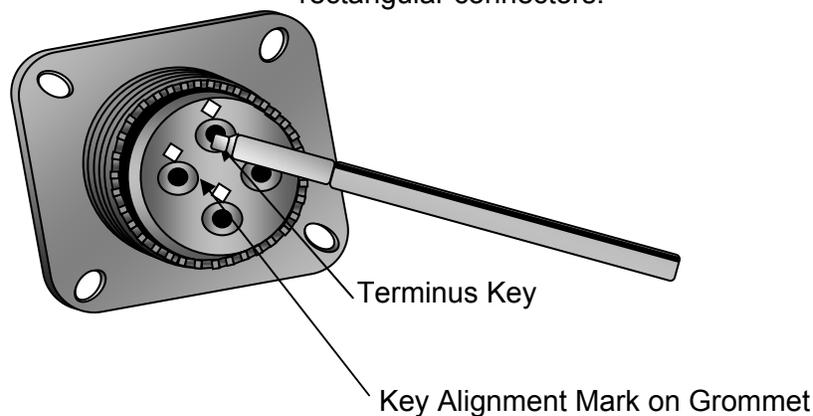

Figure 7-44 – Installing Terminus into the Circular Connector
Step 3 - Place the terminus in the proper cavity in the rear of the connector insert ensuring that the key is aligned with the alignment mark on the grommet. Apply pressure with the insertion tool until the terminus snaps into place See Figure 7-44.